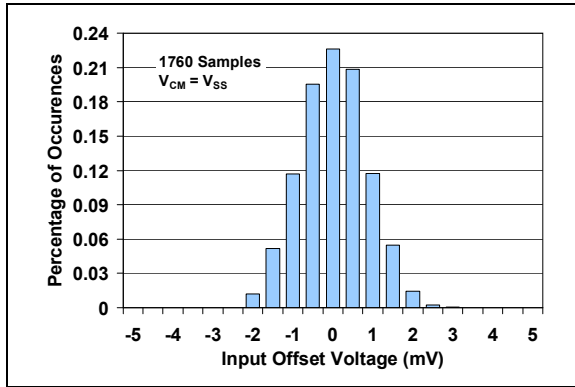

**FIGURE 1-1:** AC and DC Test Circuit for Most Specifications.
Electrical Characteristics: Unless otherwise indicated, $V_{DD} = +1.8V$ to $+6.0V$ , $V_{SS} = GND$ , $T_A = +25^{\circ}C$ , $V_{CM} = V_{DD}/2$ , $V_{OUT} \gg V_{DD}/2$ , $V_L = V_{DD}/2$ and $R_L = 100$ k $\Omega$ to $V_L$ . (Refer to <a href="#">Figure 1-1</a> ).
**Electrical Characteristics:** Unless otherwise indicated,  $T_A = +25^\circ\text{C}$ ,  $V_{DD} = +1.8$  to  $+6.0\text{V}$ ,  $V_{SS} = \text{GND}$ ,  $V_{CM} = V_{DD}/2$ ,  $V_{OUT} \approx V_{DD}/2$ ,  $V_L = V_{DD}/2$ ,  $R_L = 100\text{ k}\Omega$  to  $V_L$  and  $C_L = 60\text{ pF}$ . (Refer to Figure 1-1).
The circuit used for most DC and AC tests is shown in Figure 1-1. This circuit can independently set  $V_{CM}$  and  $V_{OUT}$ ; see Equation 1-1. Note that  $V_{CM}$  is not the circuit's common mode voltage ( $(V_P + V_M)/2$ ), and that  $V_{OST}$  includes  $V_{OS}$  plus the effects (on the input offset error,  $V_{OST}$ ) of temperature, CMRR, PSRR and  $A_{OL}$ .